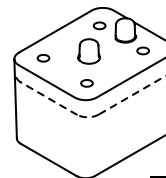

Figure 2
1. Mark centerline of top retainer (Figure 2) on top jamb.